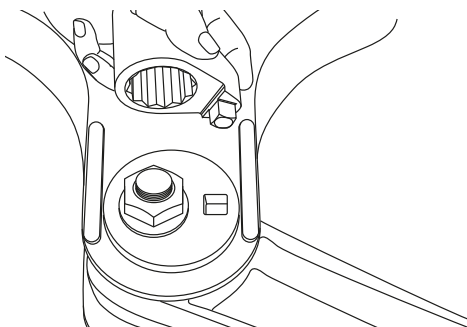
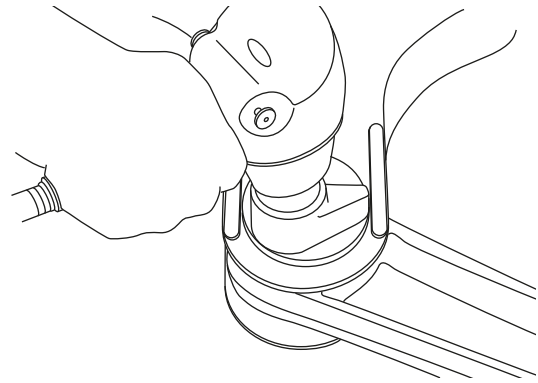

Figure 38: Attach QUIK-ALIGN Socket Tool
Figure 39: Rotate QUIK-ALIGN Eccentric Collar with Impact Gun
9. Use a QUIK-ALIGN socket tool and impact gun or a 1/2" square drive breaker bar to rotate the QUIK-ALIGN eccentric collar to align the axle. Refer to Figure 38 and Figure 39.